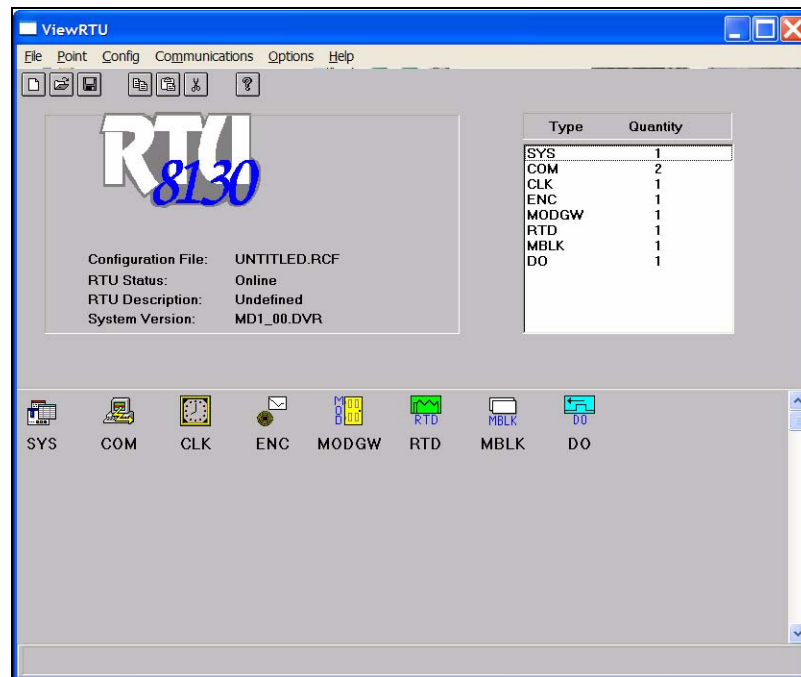

Figure 9–11: ViewRTU Main Window
4. The main screen appears, as shown in Figure 9–10.
LEDs D1 – D16 on the communications circuit board (see Figure 9–12) indicate the transmitter level setting from 0 to 95 ft. 15/16 in., in 1/16 inch increments.